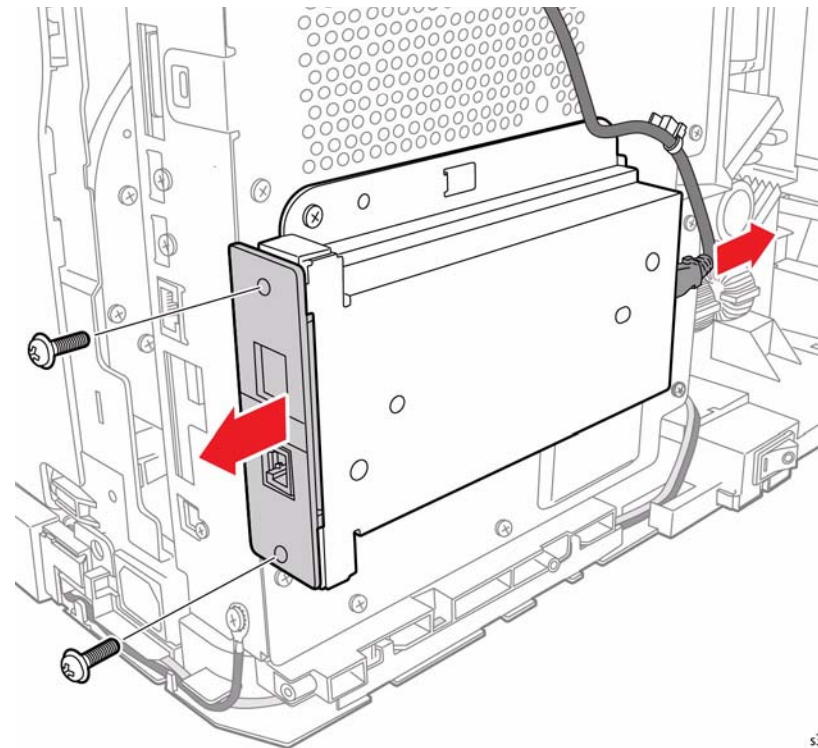

Figure 1 Remove the Fax Board
6. Refer to Figure 1 to locate and remove 2 screws (silver, M3, 6mm) that secure the FAX Board to the ESS housing cover and disconnect the FAX Cable from the ESS Board to remove the FAX Board.